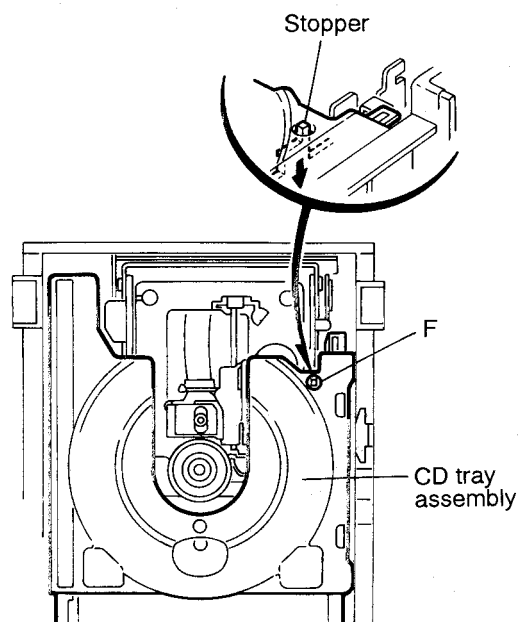

Fig. 5-22
14. Pull out all of the three stages of CD tray assembly in the arrow direction (E) until these stages stop (See Fig. 5-22).